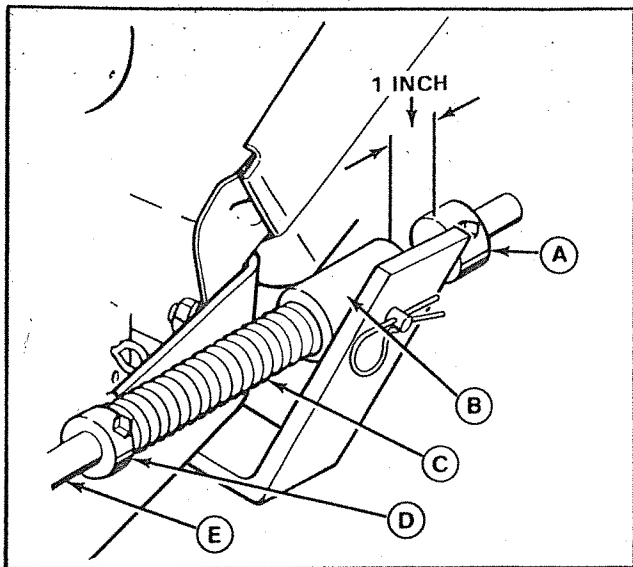

Figure 7. Lift Rod Adjustment
- a. Fully lower the lift lever. Place the front set collar one inch from the rod guide as shown in figure 7, and tighten the setscrew.